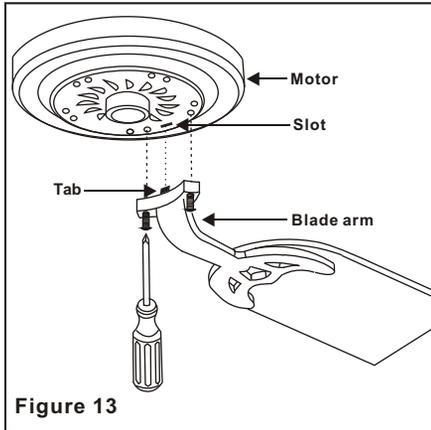

Figure 13
Step 3 Fasten the blade arms to the motor by inserting the tab from the blade arms to the slot in the bottom motor housing, then tighten the two screws and washers already installed in the blade arms (Figure 13).